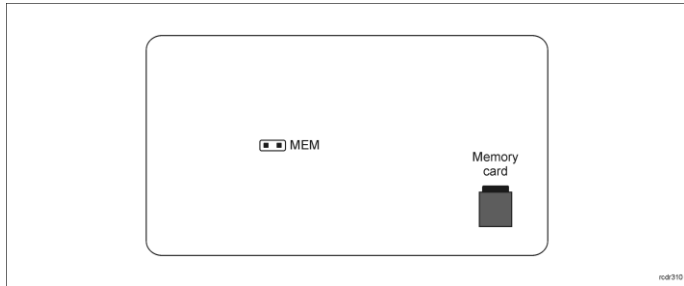

Fig. 3 Service contact and memory card
Note: Remote configuration of device from VISO v2 software is possible only if jumper is placed on MEM contacts (fig. 3). If the jumper is removed then such configuration is blocked. In case of factory new device, jumper is placed on MEM contacts.
In RACS 5 v2 system, when connected to MC16 controller, the terminal can be installed at site without previous configuration. According to AN006 application note, its address and other settings can be configured from VISO v2 management software and during such configuration the access to its service contacts (fig. 3) is not required.
2. Remove jumper from MEM contacts (fig. 3) if it is placed there.
2. Press and remove memory card from socket (fig. 3).
2. Place jumper on MEM contacts (fig. 3).